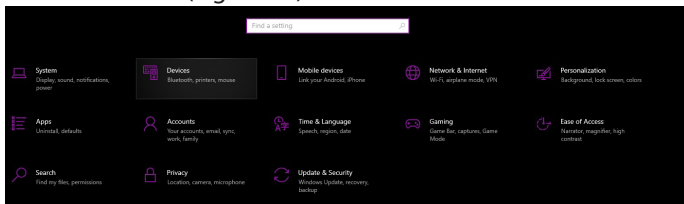

Figure 19
2. Navigate to the Windows **Settings** screen and select the **Devices** icon. (Figure 19)